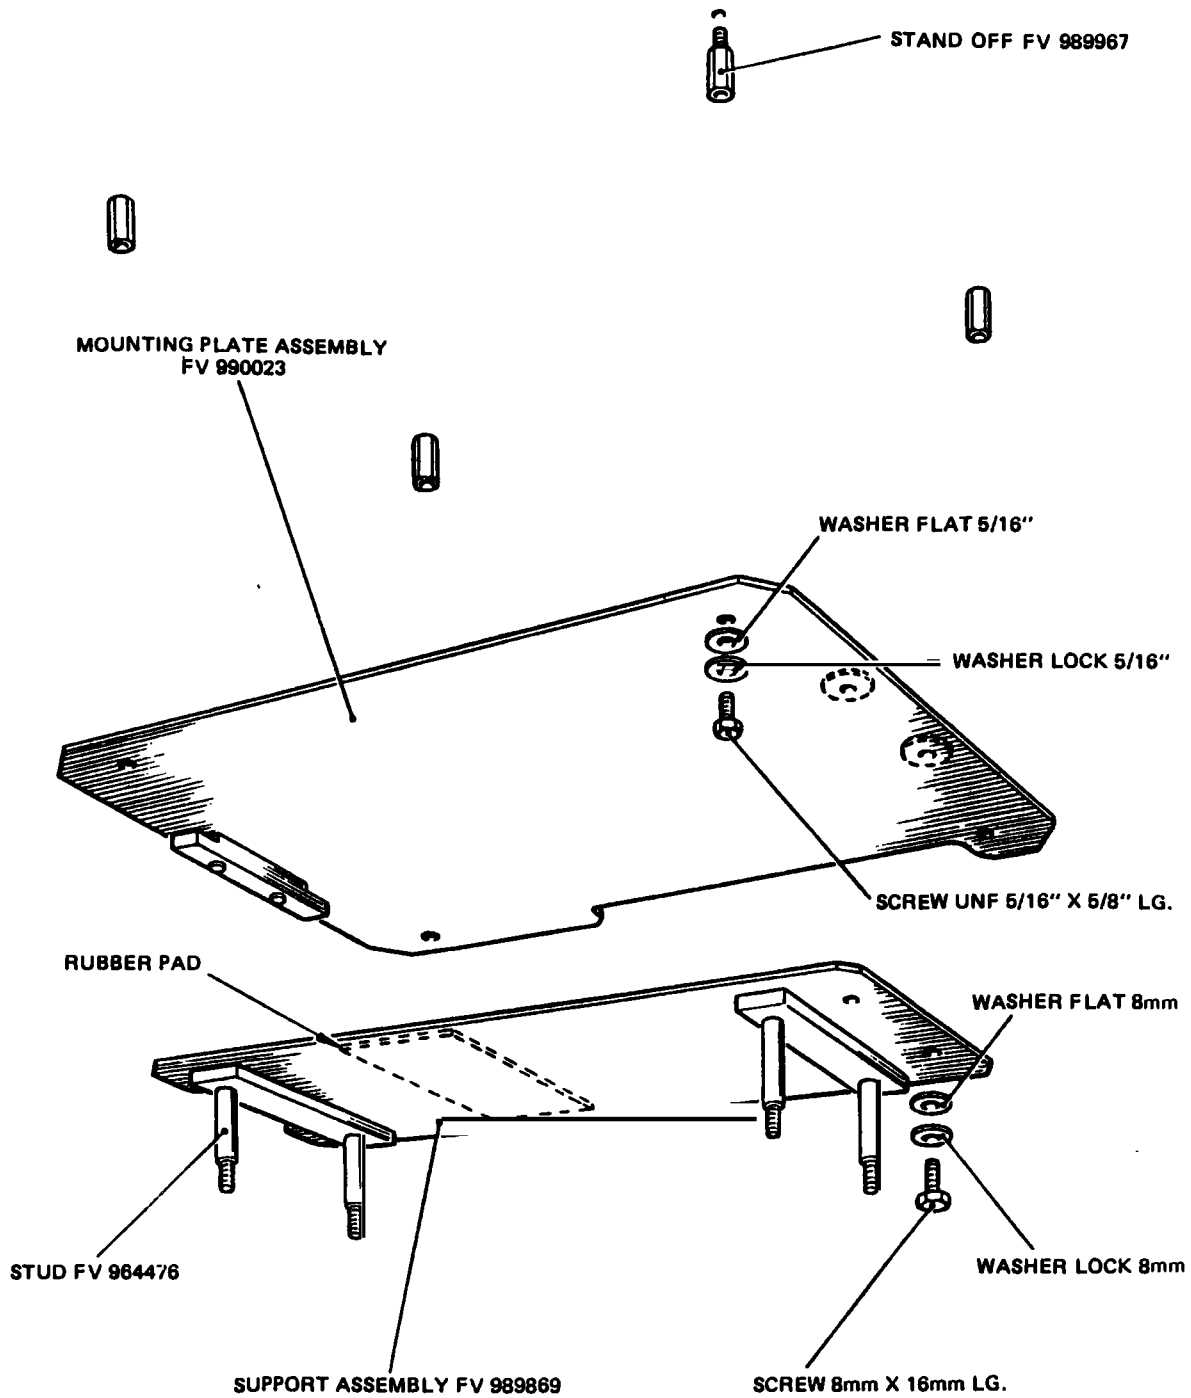

Fig 5 TUAAM mounting bracket
13.3.1 Assemble the rubber bushings (5 and 6) on the DCCU as detailed in Fig 5.
Fit the plate assembly (12) to the interior forward r.h.s. ('A' set position) as per Figs 5 and 6 and Table 2, operation 4.
Fit the TUAAM (13) to the plate assembly (12) installed in Sub Para 13.4 as per Figs 5 and 6 and Table 2, operation 5.